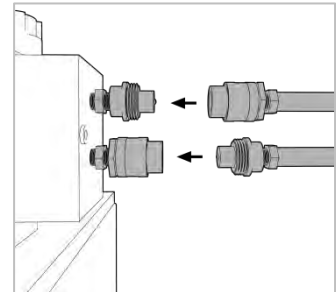

FIGURE 2 – Connecting Hoses to Pump
2. Connect the hoses male and female quick connects to the quick connects on the hydraulic pump, see FIGURE 2.